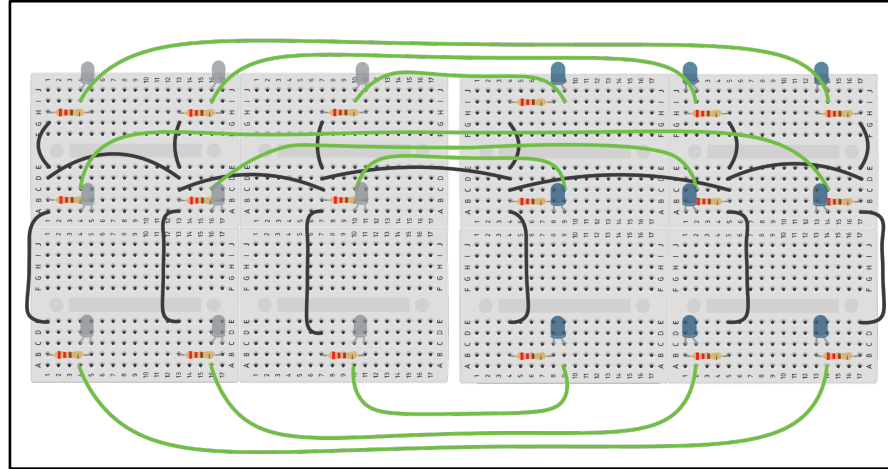

Figure 6. Wiring between the white and IR LED arrays (this should be done with these two arrays vertically stacked on top of one another (as in **Fig. 5**)).
- vi. After sticking together the white and IR LED panels, finish wiring the LEDs, add the wiring shown in green below (**Fig. 6**). The figure below shows the panels side by side for ease of visualization (as a result the green wiring appears to be longer than it actually is). However, the wiring should now be done with the panels on top of one another (this will help ensure stability of the wiring). Note that these wires (indicated in green below) put each white LED on the same electrical circuit as its vertically corresponding IR LED.